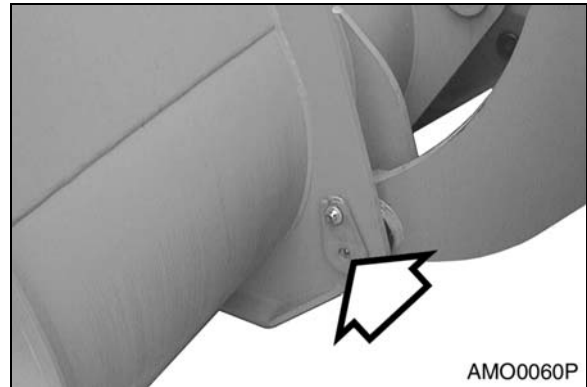

Figure 28
- A. Bucket hinge pins, 2 locations (Figure 28).